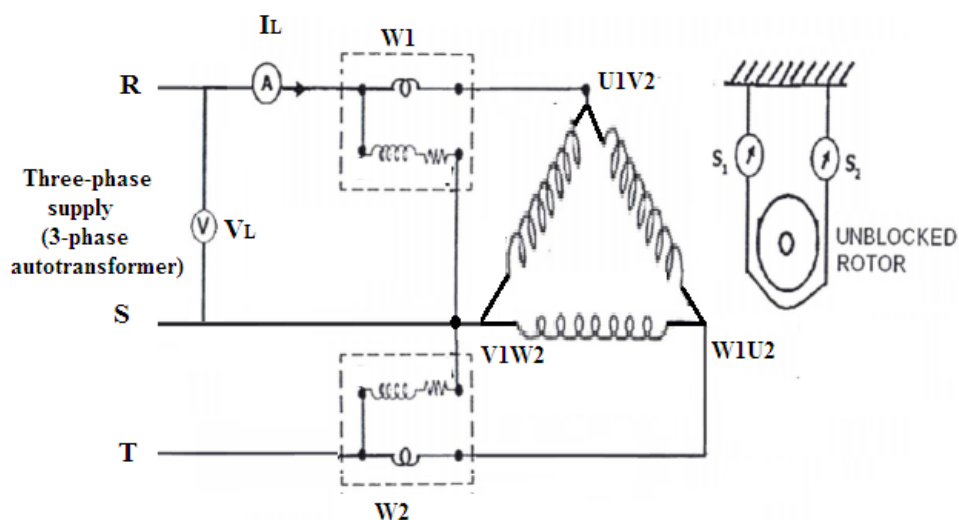

Fig. 3: Schematic diagram for No-load test on three phase induction motor
1. Connect the circuit as shown in the connection diagram in Figure 3.